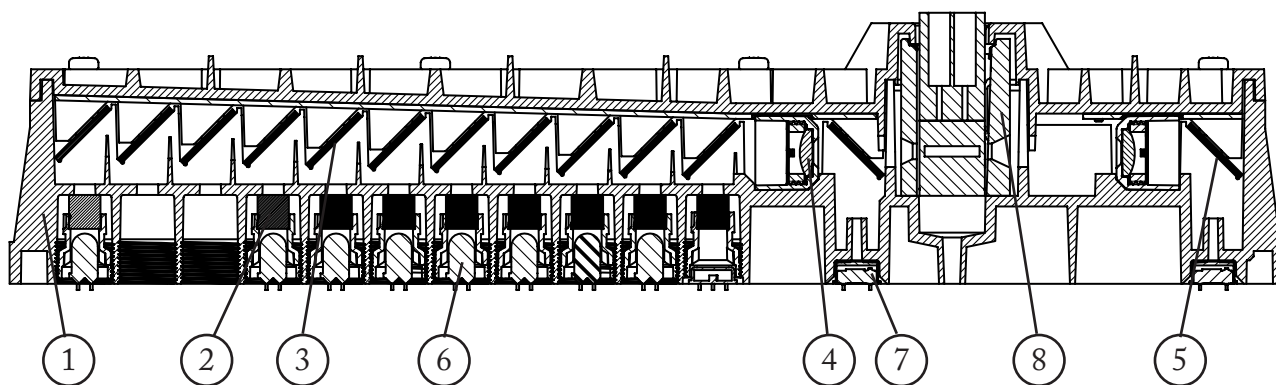

Figure 2.2
The optical system (see Figure 2.2) is comprised of a plastic-injected support (1) upon which all the components are mounted: interferential filters (2), light beamsplitters (3), lenses (4) and mirror (5). The interferential filters are placed inside a series of capsules and these are screwed to the optical bench support. Electronic components of the optical system: the LEDs (6) and photodiodes (7) are welded directly to the electronic board. The whole optical bench is also mounted on the electronic board, with the positions of the LEDs and photodiodes coinciding with those of the optical bench. The optical bench support holds the cuvette holder (8), into which the flow cuvettes or macro cuvettes are inserted from outside. The cuvette holder is comprised of a metal part to facilitate the thermostatisation of the flow cuvette.